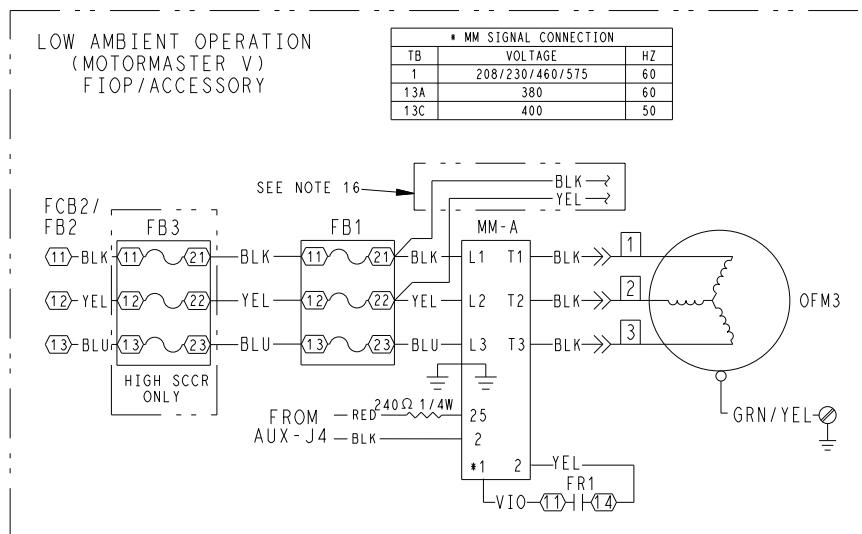

Fig. 11 — Motormaster® V Power Wiring — 38APS040-050 Units
4. Connect fan wires from fan motor to terminals T1, T2, and T3 per Fig. 11 and 12. Remove terminals as needed.
- a. Connect BLK, YEL and BLU wires from harness (part no. 38APHLSMFV-A00) to fuse block 2 and the other end to MM connection L1, L2 and L3 per Fig. 11 and 12.
- c. Connect VIO and YEL wires to terminal 14 and 11 of FR-1 per Fig. 11 and 12.